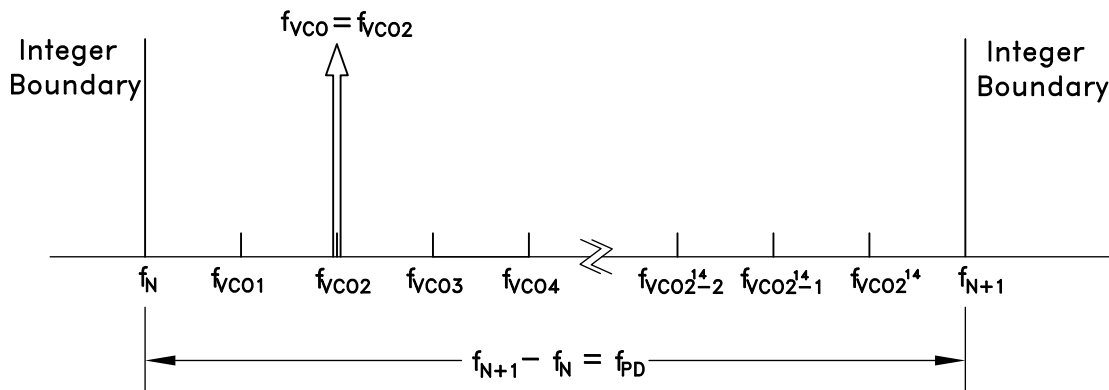

Figure 44. Exact Frequency Tuning
and f_{VCOk} are the channel step frequencies where $0 < k < 2^{24}-1$, As shown in Figure 44.
Some fractional PLLs are able to achieve this by adjusting (shortening) the length of the Phase Accumulator (the denominator or the modulus of the Delta-Sigma modulator) so that the Delta-Sigma modulator phase accumulator repeats at an exact period related to the interval frequency ($f_{VCOk} - f_{VCO(k-1)}$) in Figure 44. Consequently, the shortened accumulator results in more frequent repeating patterns and as a result often leads to spurious emissions at multiples of the repeating pattern period, or at harmonic frequencies of $f_{VCOk} - f_{VCO(k-1)}$. For example, in some applications, these intervals might represent the spacing between radio channels, and the spurious would occur at multiples of the channel spacing.
If it is desirable to have multiple, equally spaced, exact frequency channels that fall within the same interval (ie. $f_N \leq f_{VCOk} < f_{N+1}$) where f_{VCOk} is shown in Figure 44 and $1 \leq k \leq 2^{14}$, it is possible to maintain the same integer-N (Reg 03h) and exact frequency register (Reg 0Ch) settings and only update the fractional register (Reg 04h) setting. The Exact Frequency Channel Mode is possible if (EQ 17) is satisfied for at least two equally spaced adjacent frequency channels, i.e. the channel step size.
To configure the HMC833LP6GE for Exact Frequency Channel Mode, initially and only at the beginning, integer (Reg 03h) and exact frequency (Reg 0Ch) registers need to be programmed for the smallest f_{VCO} frequency (f_{VCO1} in Figure 44), as follows:
1. Calculate and program the integer register setting Reg 03h = $N_{INT} = \text{floor}(f_{VCO1}/f_{PD})$, where f_{VCO1} is shown in Figure 44 and corresponds to minimum channel VCO frequency. Then the lower integer boundary frequency is given by $f_N = N_{INT} \cdot f_{PD}$.
$\text{Reg04h} = N_{FRAC} = \text{ceil} \left(\frac{2^{24} (f_{VCOk} - f_N)}{f_{PD}} \right)$ where $f_N = \text{floor}(f_{VCO1}/f_{PD})$, and f_{VCO1} , as shown in Figure 44, represents the smallest channel VCO frequency that is greater than f_N .
4. To change from channel 1 ($f_{VCO1} = 2800.2$ MHz) to channel 2 ($f_{VCO2} = 2800.3$ MHz), only **Reg 04h** needs to be programmed, as long as all of the desired exact frequencies f_{VCOk} (Figure 44) fall between the same integer-N boundaries ($f_N < f_{VCOk} < f_{N+1}$). In that case